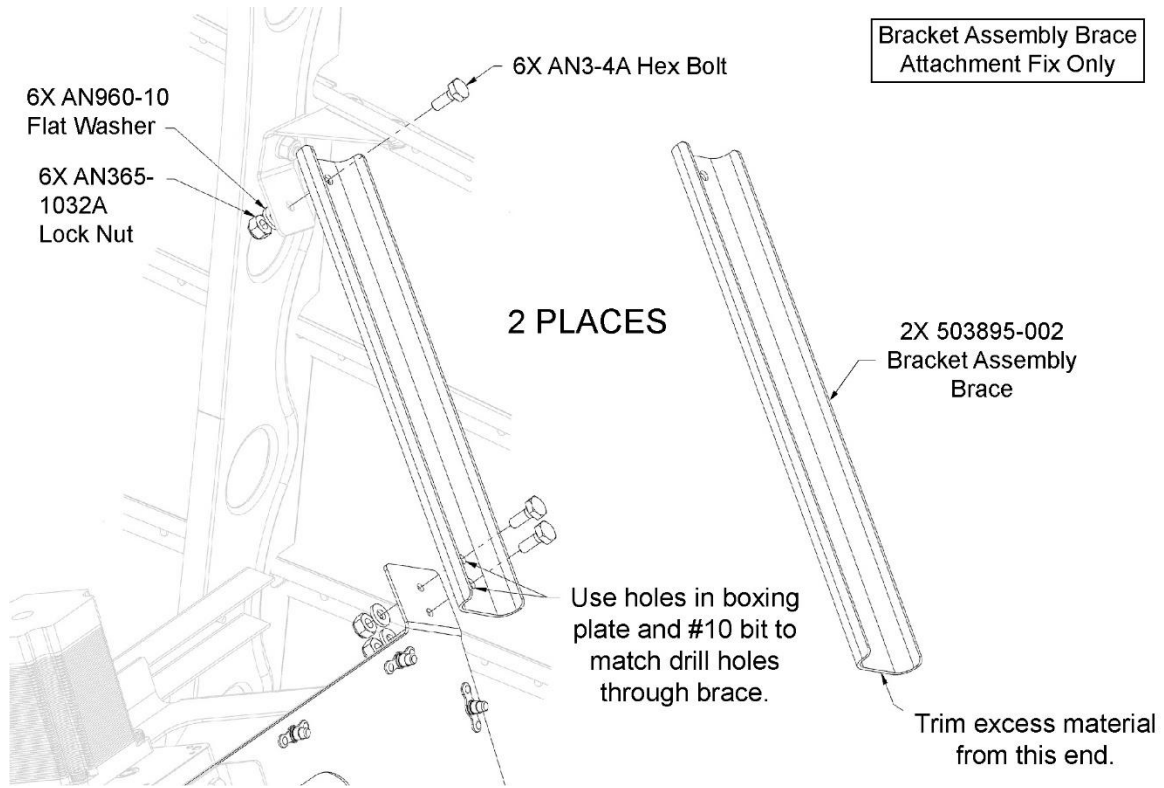

Figure 14: Installing New Bracket Assembly Braces
24. If implementing only the FS207 Frame Attachment Fix, attach new bracket assembly braces to gussets and boxing plate, as shown in Figure 14, and then skip to Step 44. Torque fasteners per specifications in AC 43.13-1B, Table 7-1.